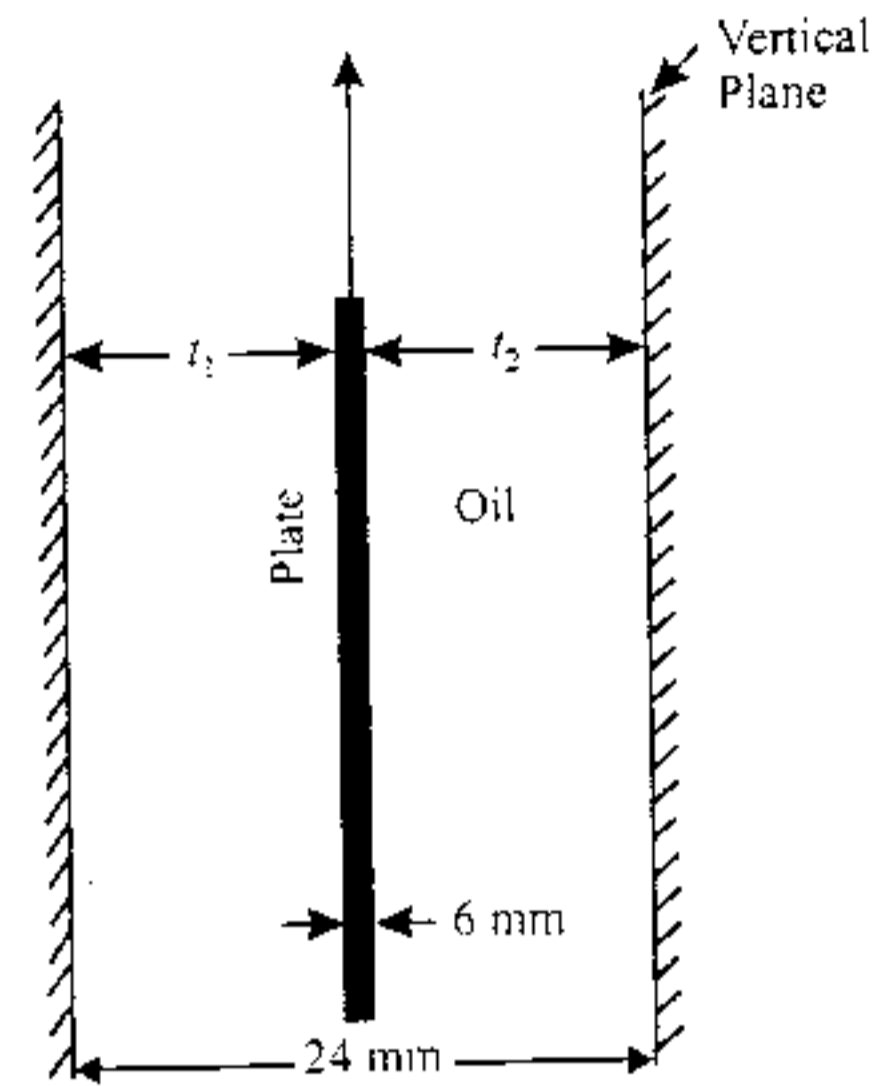

Fig. 1.15
**Example 1.18.** A metal plate  $1.25 \text{ m} \times 1.25 \text{ m} \times 6 \text{ mm}$  thick and weighing  $90 \text{ N}$  is placed midway in the  $24 \text{ mm}$  gap between the two vertical plane surfaces as shown in the Fig. 1.15. The gap is filled with an oil of specific gravity  $0.85$  and dynamic viscosity  $3.0 \text{ N.s/m}^2$ . Determine the force required to lift the plate with a constant velocity of  $0.15 \text{ m/s}$ .